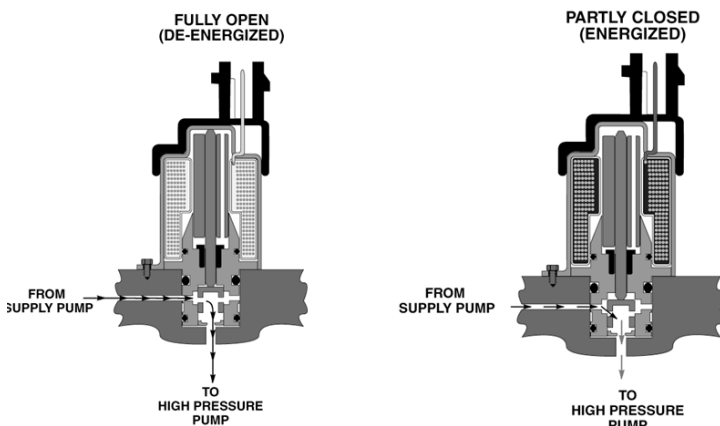

Figure 43 Fuel rail pressure regulator (Disc 1 Slide)
The fuel rail pressure regulator (FRPR) as shown in Figure 43 is controlled by the ECM to set the required rail pressure as a function of engine loading, and maintains it at this level. The FRPR is an open and closed valve that is normally open (NO).